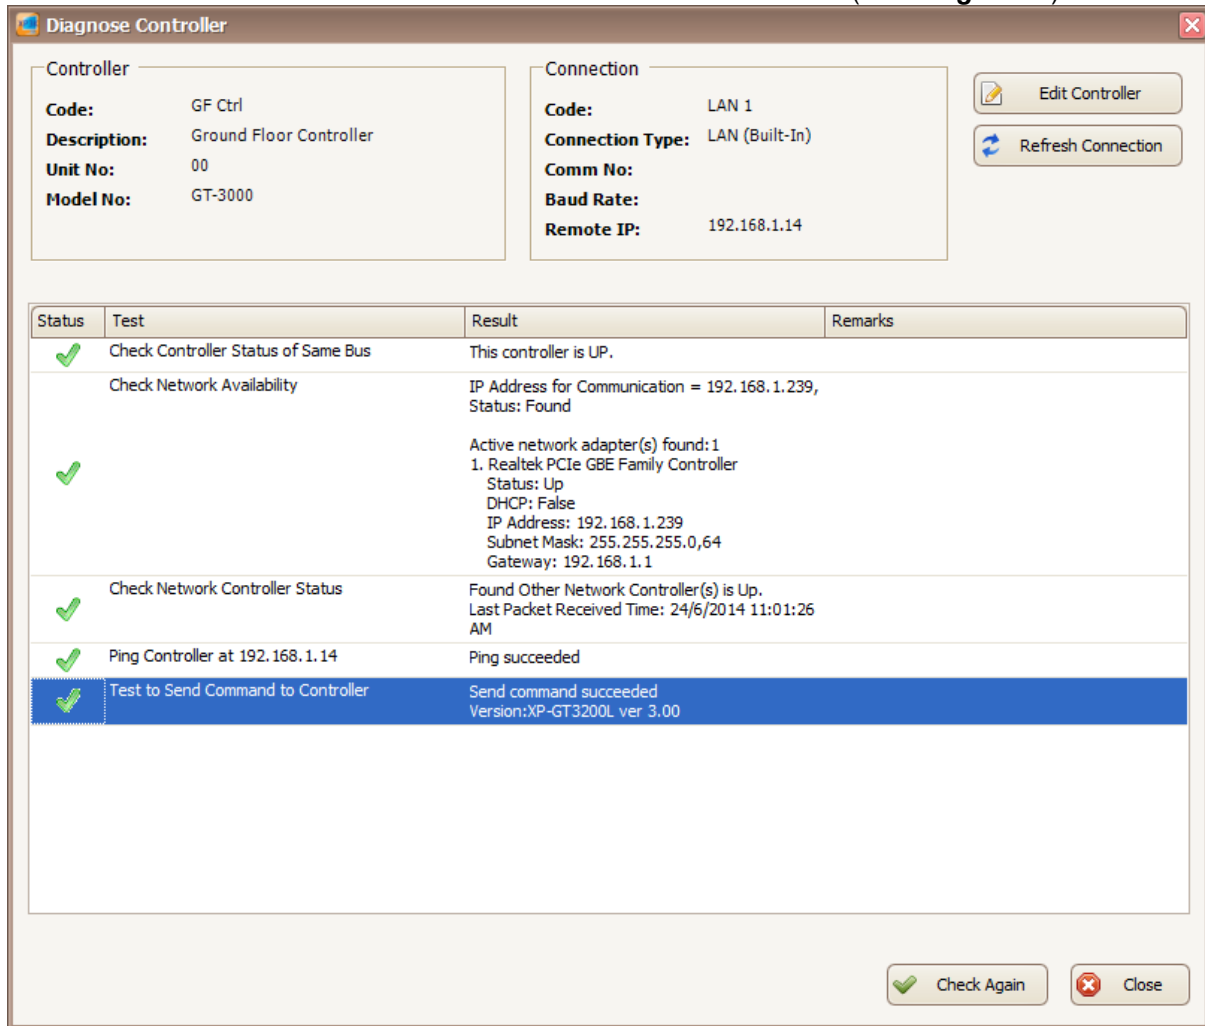

Figure 45 - Diagnose Controller
28. Click “Test Connection” to check the controller’s connection status (*Refer Figure 45*).